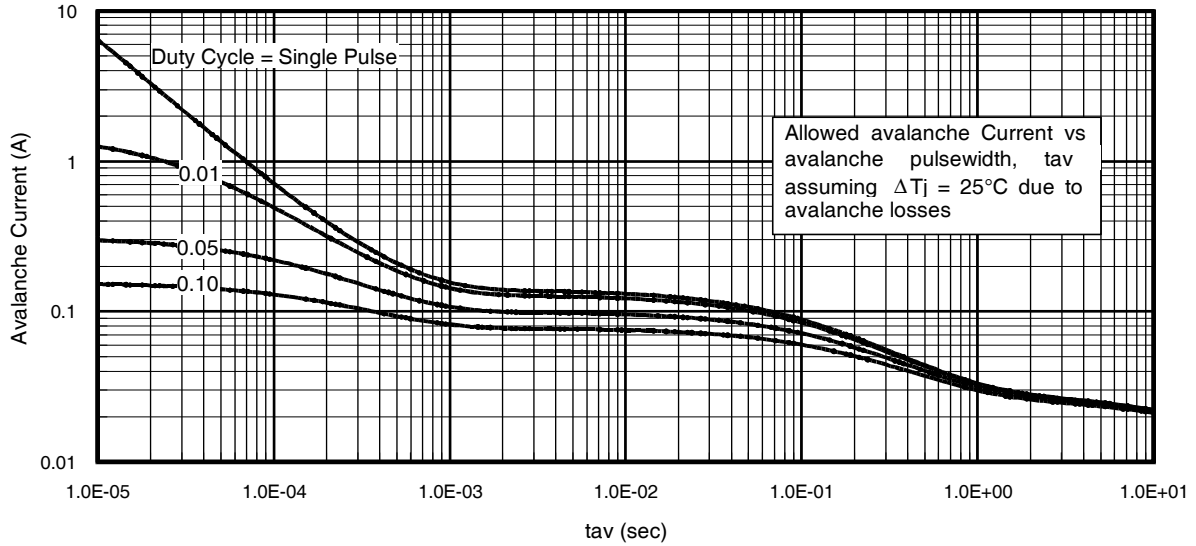

Fig 15. Typical Avalanche Current vs.Pulsewidth
**Notes on Repetitive Avalanche Curves , Figures 15, 16:**
7.  $\Delta T$  = Allowable rise in junction temperature, not to exceed  $T_{jmax}$  (assumed as 25°C in Figure 15, 16).